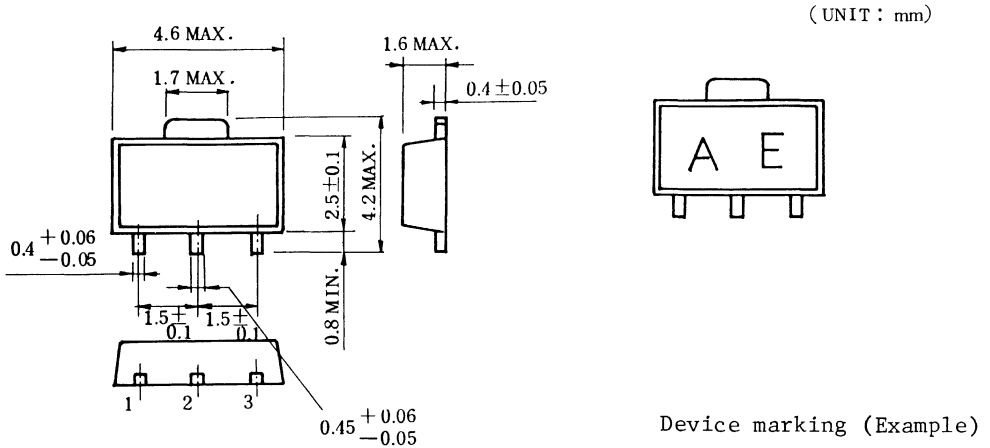

Fig.21 Power Mini IC Outline Drawing (equivalent to SOT-89)
(4) Power Mini IC (Equivalent to SOT-89)
Shown in Fig. 21 is an outline drawing of Power Mini IC. The resin section is as small as 2.8mm (length) 4.5mm (width) 1.5mm (thickness) with the fin (Ground terminal) projected directly to the outside. This IC can be soldered directly to a substrate and large collector power dissipation can be obtained. This IC is of flat package type with the three leads arranged on the same edge, and is easily mountable on a substrate. Fig. 21-(2) also shows its device marking example.